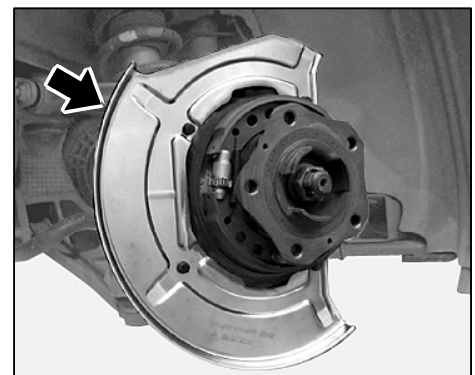

Figure 4
3.1 Fit new cover plate at the right/left ⇒ *Figure 4 -arrow-*.